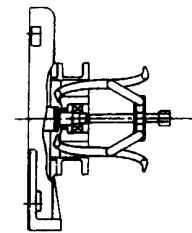

Fig.3
- (4) Remove the bare blower from the base. Stand the blower on a stand with the inlet side up. (Be careful not to tip over the blower during the work.)
- (5) Remove *bearing cover* ㉘ and *packing* ㉙.
- (6) Remove *bearing nut* ㉚ and *bearing washer* ㉛.
- (7) Remove the screw holding *bearing box (inlet side)* ㉜. Pull out *bearing* ㉝ and *bearing box (inlet side)* ㉜ together. (Fig.3)
- (8) Pull off *bearing* ㉝ from *bearing box (inlet side)* ㉜. (Tapping the *bearing* with a hammer-handle from backside will help for easy removal.)
- (9) After loosen *fan case fastening nuts* ㉞, remove *fan case fastening bolts* ㉟. Remove *fan case (C)* ㉟ and *foots* ㊱.
- (10) Remove *fan stopper nut* ㊲ and *fan stopper washer* ㊳.
- (11) Remove *fan* ㊴, *fan case (B2)* ㊵, *deflector* ㊶, *collar* ㊷, *fan* ㊴, *fan case (B3)* ㊸ & *fan case (B)* ㊹, *deflector* ㊶, *collar* ㊷, and *fan* ㊴ through the last fan in this order.